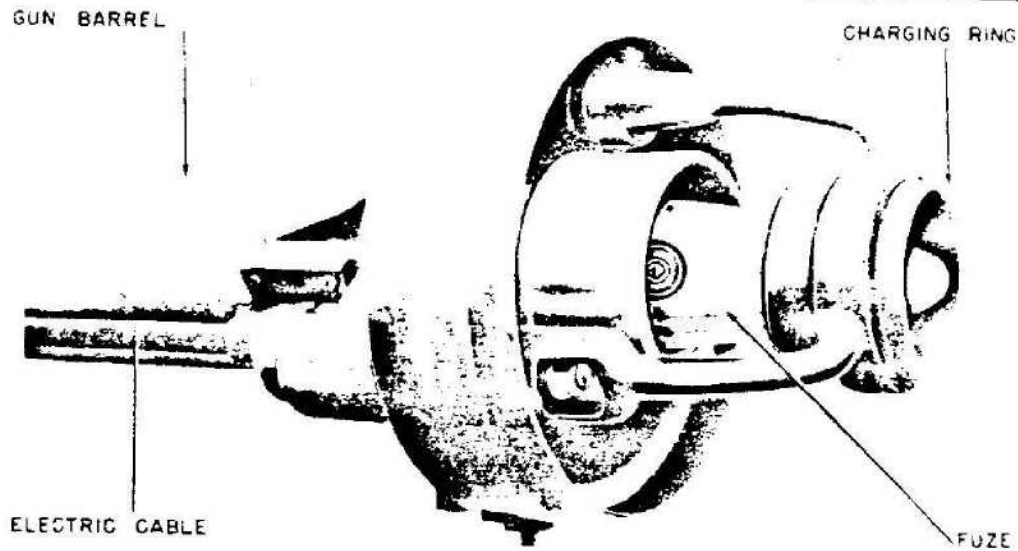

Figure 597C—Muzzle Charging Ring
**MUZZLE CHARGING RING:** The muzzle-loading device consists of a cylinder which fits around the barrel of the gun just behind the muzzle and the charging ring which is held out in front of the muzzle by means of three arms located 120° apart. (See fig. 597C.) The cylinder is connected by means of a cable to the battery and voltage-control mechanism, at the breech end of the gun. Direct connection is made be-